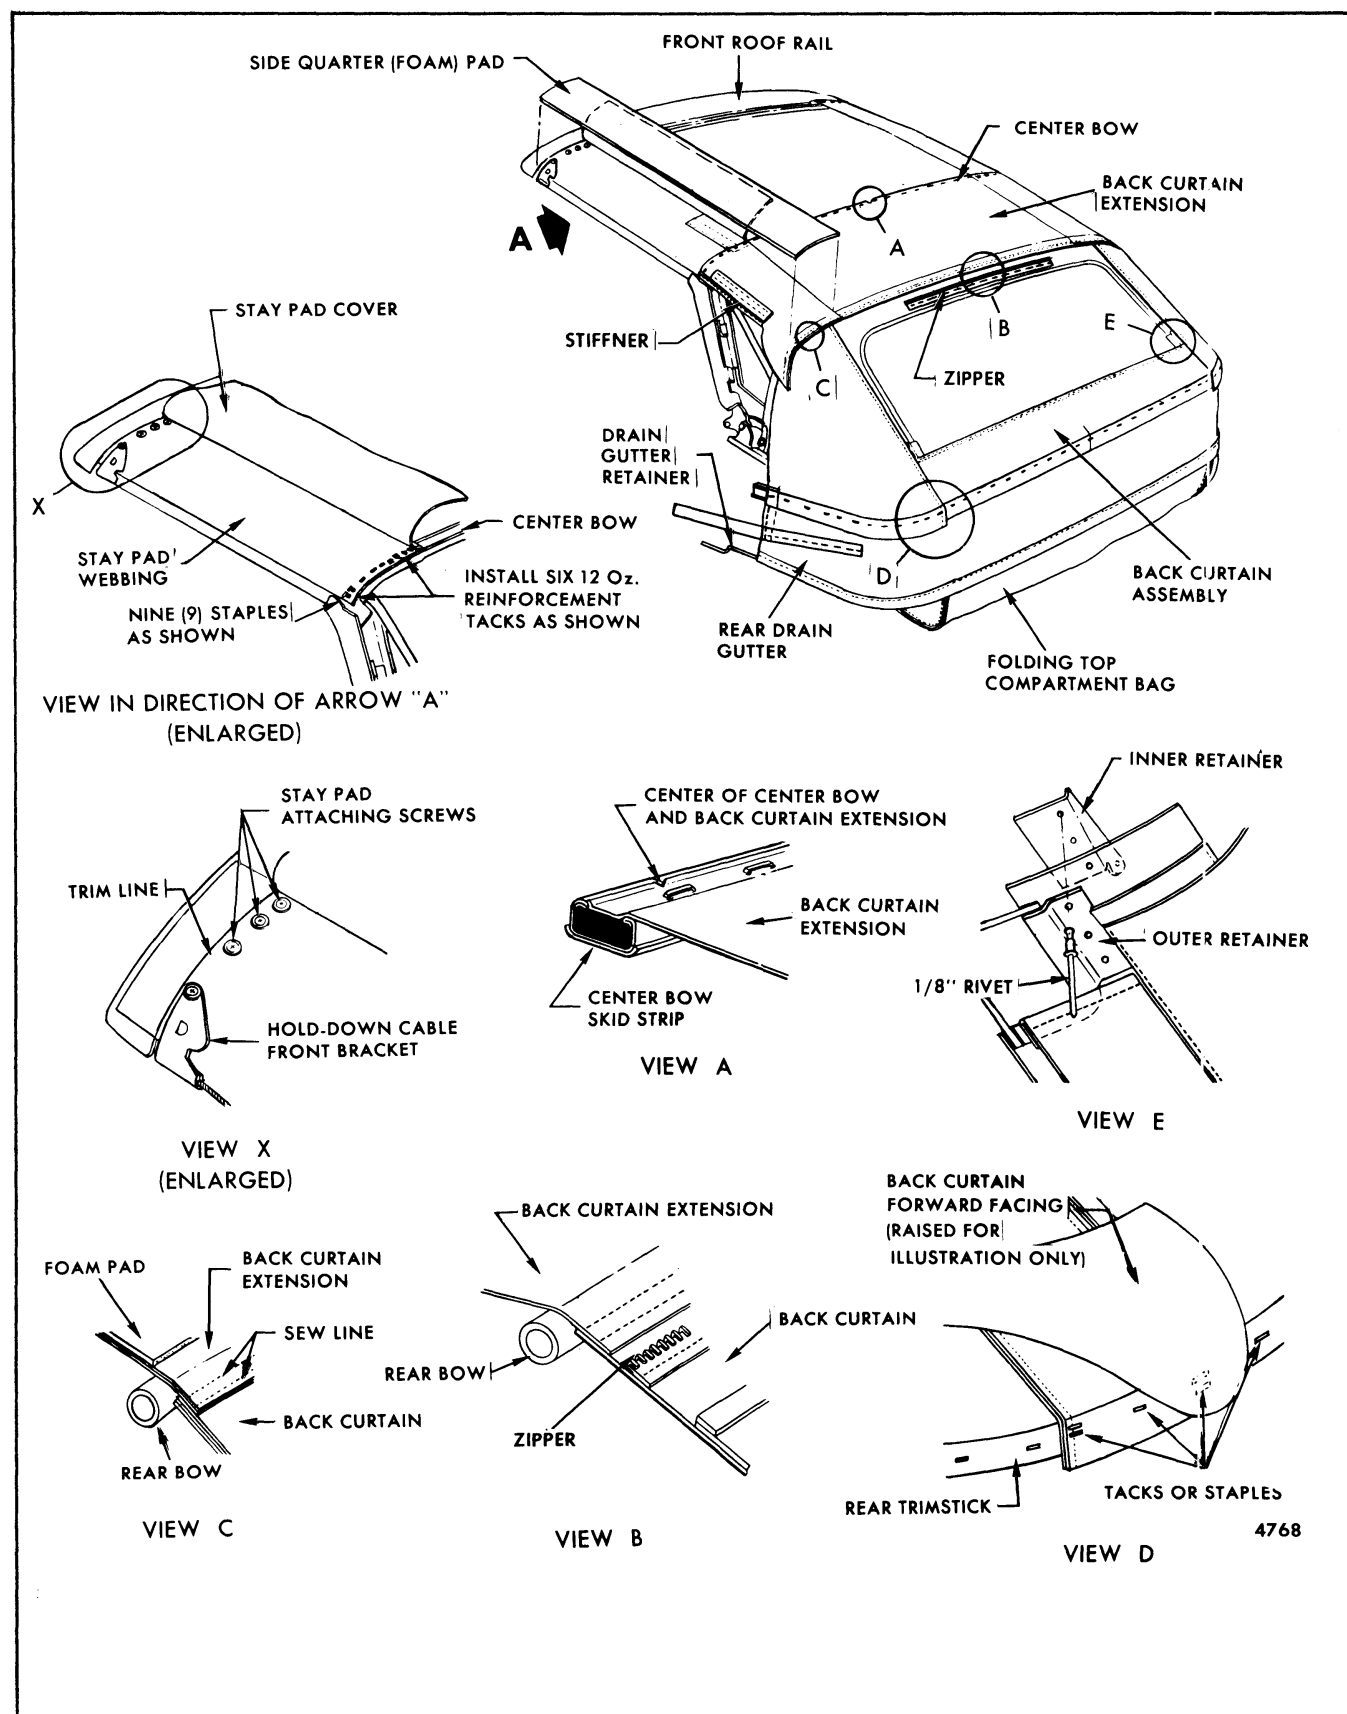

Fig. 8-55-Back Curtain Assembly Attachment and Reference Marking
A. Detach side quarter foam pad from back curtain extension up to center bow (Fig. 8-55). If pad(s) are damaged during removal, they
1. At front: On back curtain extension and on center roof bow (View "A", Fig. 8-55).
C. Detach back curtain from rear trimstick. Note how folded material is secured below back window sides (View "D", Fig. 8-55).
- D. Transfer center reference mark from original back curtain to new curtain at front (on extension) (View "A", Fig. 8-55) and at rear (on valance) (Item "C", Fig. 8-54).
- A. Position center of new back curtain extension on center of center bow. Front edge of extension should be flush with front rib of center bow. Staple or tack extension to center bow. Start at center, keep trim material flat, and space tacks or staples about two (2) inches apart (View "A", Fig. 8-55).
- D. Fold back each side of curtain, shown in View "D", Figure 8-55, and install three staples or tacks at this location.
- E. Space staples or tacks about two inches apart (about 40 tacks or staples). Avoid excessive stretching of material (Fig. 8-55).
3. Cement original or replacement side quarter (foam) pad (Fig. 8-55) between center bow and rear bow on each side. If pad(s) from center to rear bow were damaged upon removal, replace them with equivalent foam rubber material.